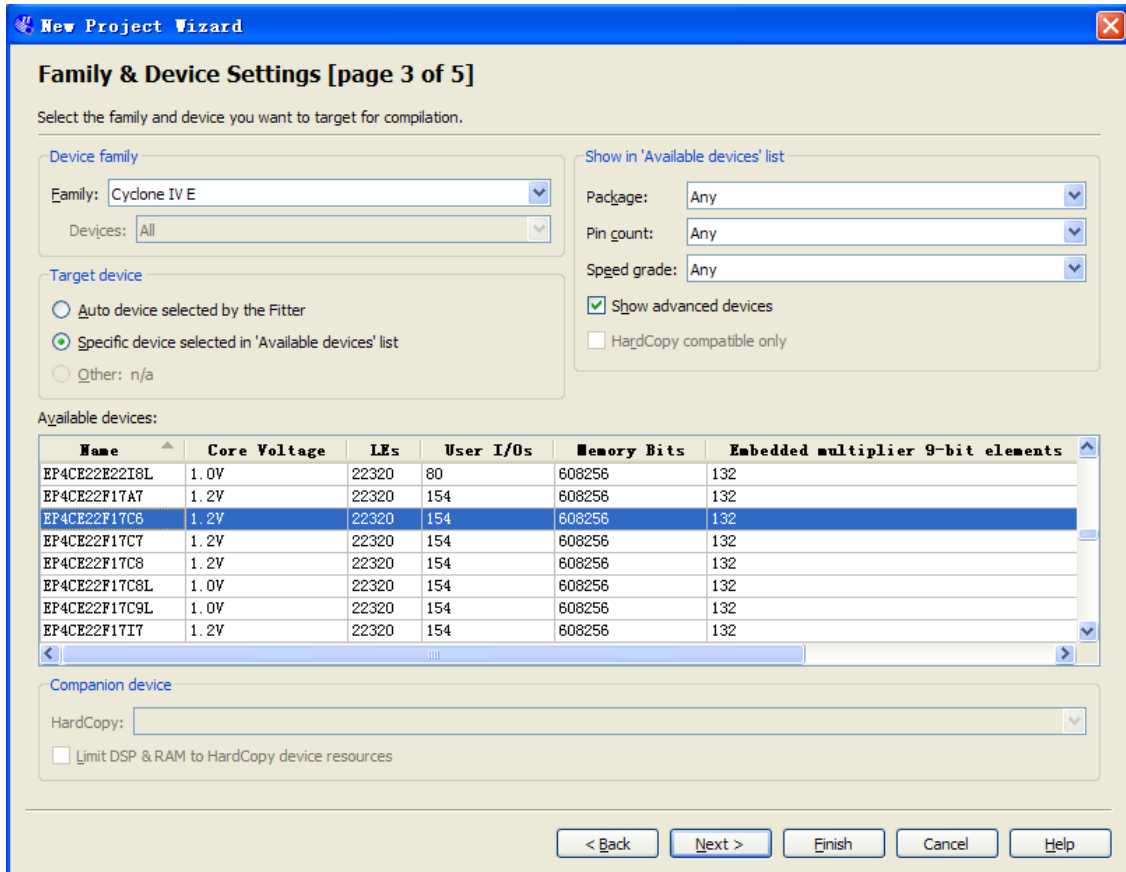
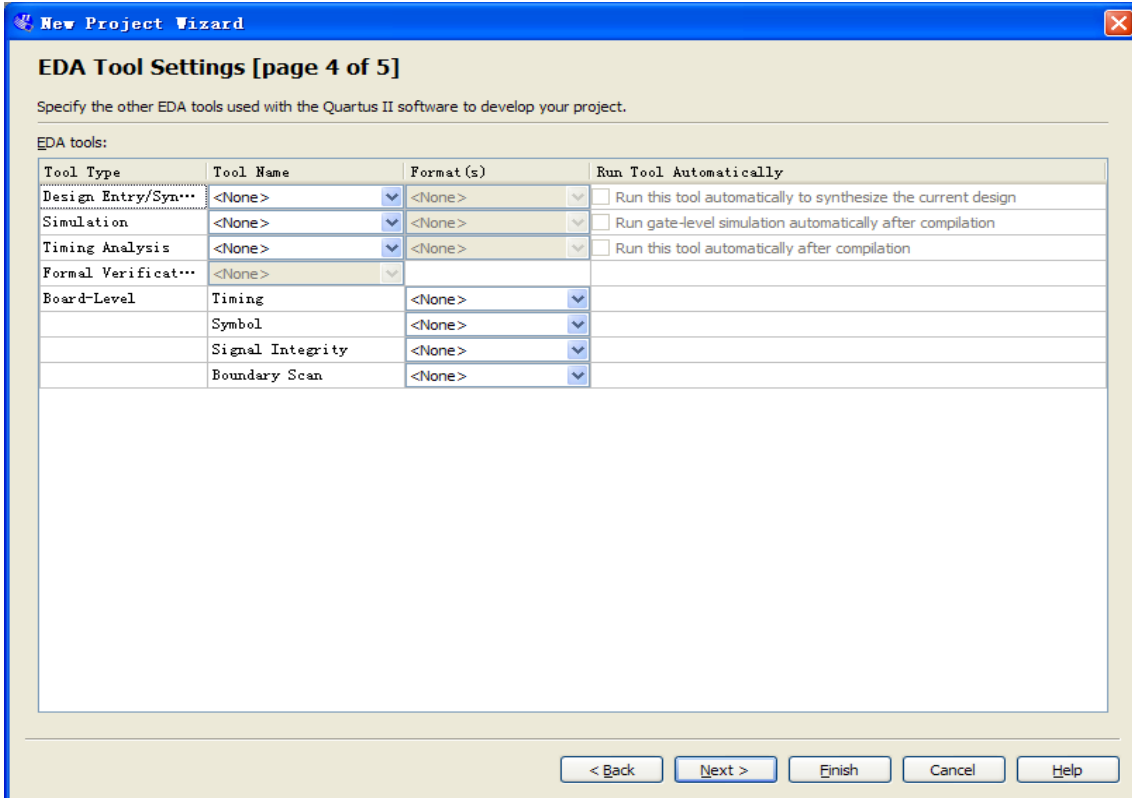

Figure 7-5 New Project Wizard: Family & Device Settings [page 3 of 5]
Figure 7-6 New Project Wizard: EDA Tool Settings [page 4 of 5]
3. Click **Next** to next window. We choose device family and device settings. You should choose settings the same as the **Figure 7-5**. Then click **Next** to next window as shown in **Figure 7-6**.